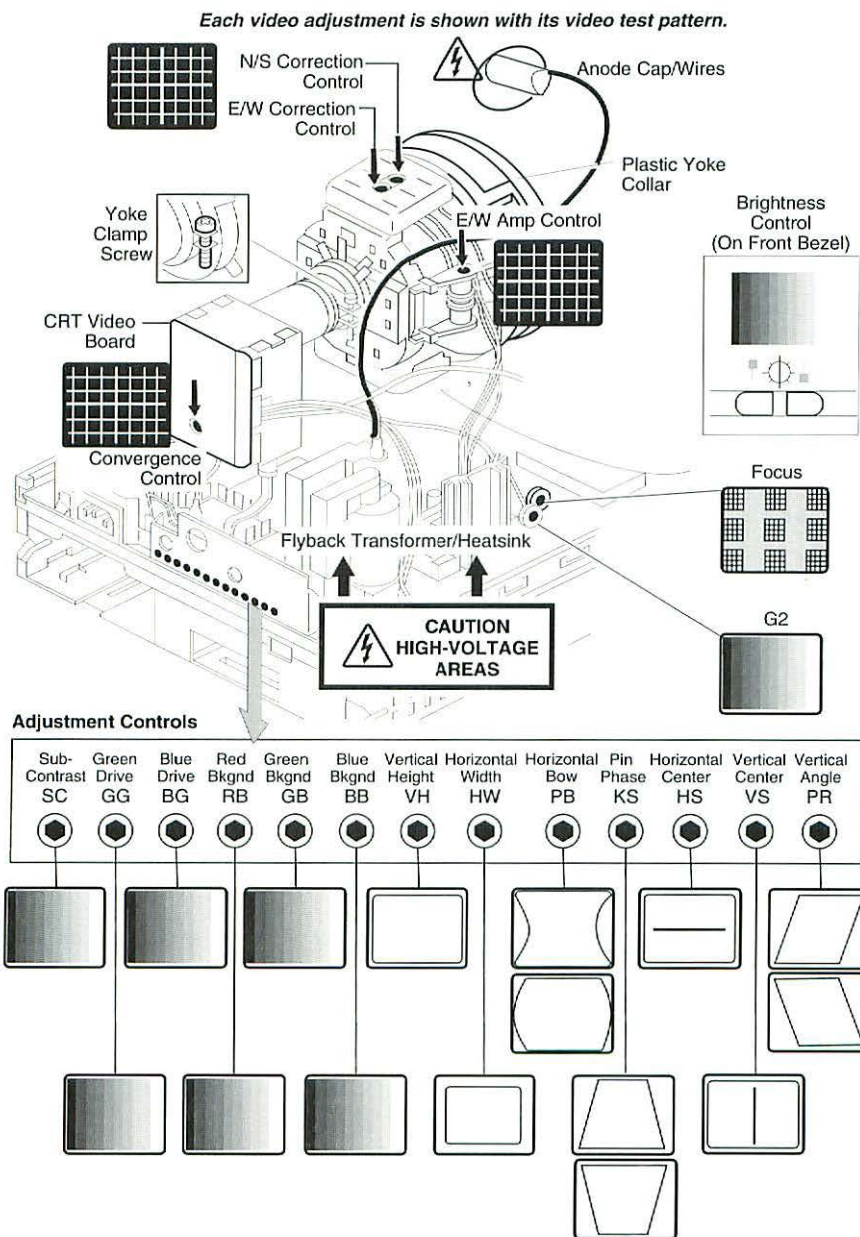

Figure 3 Color Classic Video Adjustments
Using a hex-head plastic adjustment tool, adjust the horizontal or vertical center controls (see Figure 3) until the raster is centered in the display area.
1. Using a hex-head plastic adjustment tool, adjust the vertical height control (see Figure 3) until the raster is 4.9 inches ($\pm 1/16$ inch) or 124.5 mm (± 1.5 mm). Verify this height.
2. Using a hex-head plastic adjustment tool, adjust the horizontal width control (see Figure 3) until the raster is 6.7 inches ($\pm 1/16$ inch) or 168.5 mm (± 1.5 mm). Verify the width.
1. Using MacTest Pro, display the Focus test pattern (see Figure 3).
4. Using the adjustment tool, set the red, green, and blue background controls to the full counterclockwise positions (Figure 3).
6. Set the sub-contrast control to its full clockwise position (Figure 3).
7. Using a hex-head plastic adjustment tool, adjust G2 until the first bar in the test pattern is completely black and the second bar is barely discernible (Figure 3).
3. Using a hex-head plastic adjustment tool, adjust the convergence control (see Figure 3) on the CRT video board for best overall convergence.
4. Using a hex-head plastic adjustment tool, adjust the N/S correction control (Figure 3) for best convergence of horizontal lines at the top and bottom of the screen.
5. Adjust the E/W correction control (Figure 3) for best convergence of vertical lines at the left and right sides of the screen.
2. To determine which control to adjust, compare the display with the distortions shown in Figure 3.
- Pin phase (KS)
- Vertical angle (PR)
- Horizontal bow (PB)
2. Using an insulated cross-tip screwdriver, loosen the yoke clamp screw (Figure 3) two or three turns.